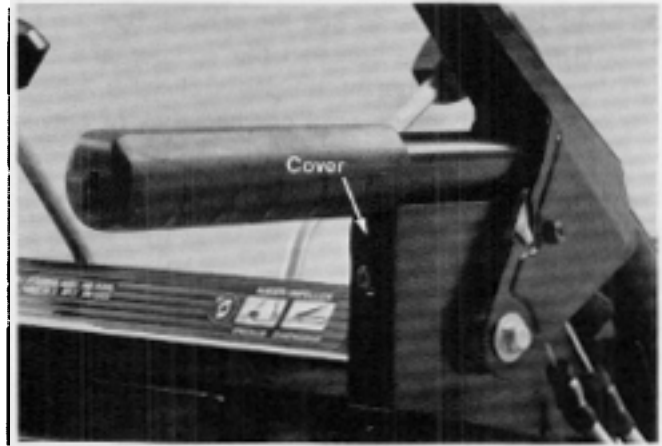

Figure 106
2. Remove the cover on the right handle as shown in Figure 106.